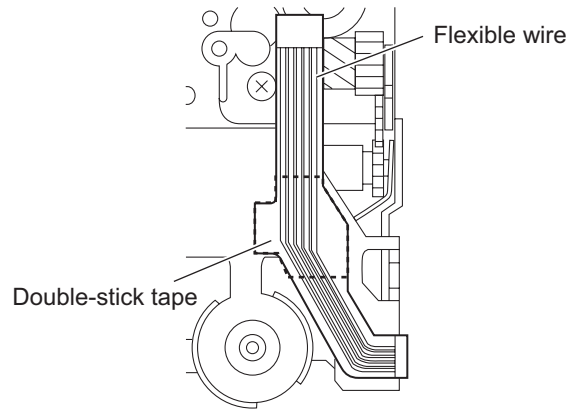

Fig.10
### 3.2.6 Removing the front unit (See Figs10 to 12)
- (1) From the bottom side of the mechanism section, remove the double-stick tape fixing the flexible wire. (See Fig.10.)